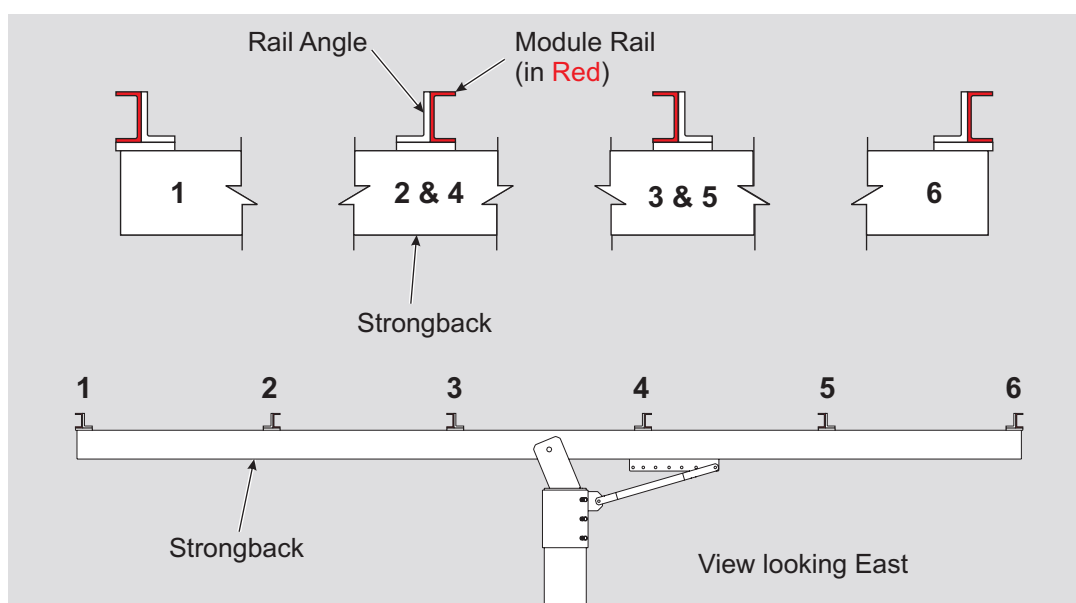
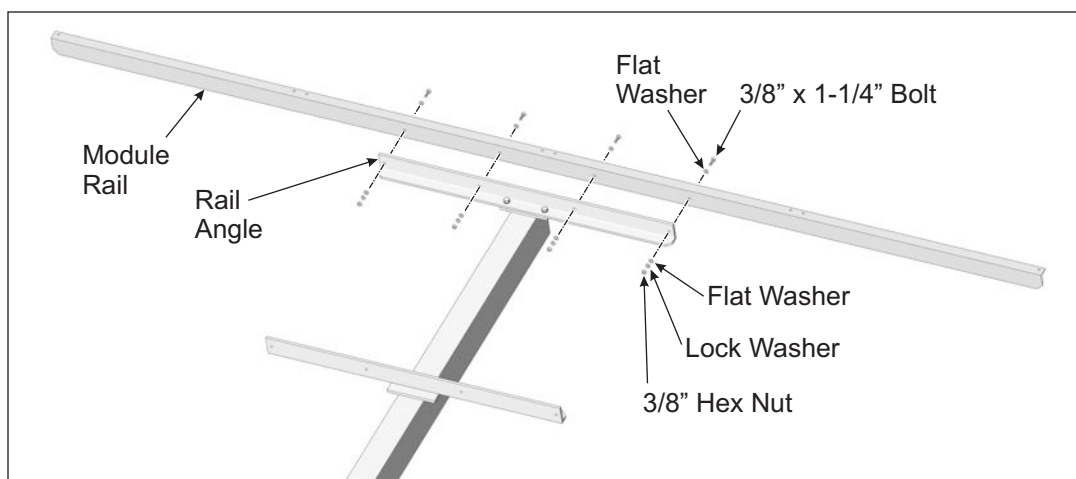

Figure 4-1: Orientation of Module Rails to Strongback
Figure 4-2: Installing Module Rail to Rail Angle
Module Rails must also be properly oriented to the Strongback; if not the PV Modules will not align to the mounting holes of the Module Rails. (See Figure 4-1)
- Referring to Figure 4-1 for orientation of the inboard Module Rails, position the first section of Module Rail (with its angle cut end positioned north) at the northern most position on the Cross-Bars. Align the Module Rail mounting holes with the holes of the Cross-Bar mounting tabs and secure with 3/8" x 1-1/4" bolts and hardware. Finger-tighten for now. (See also Figure 4-2)